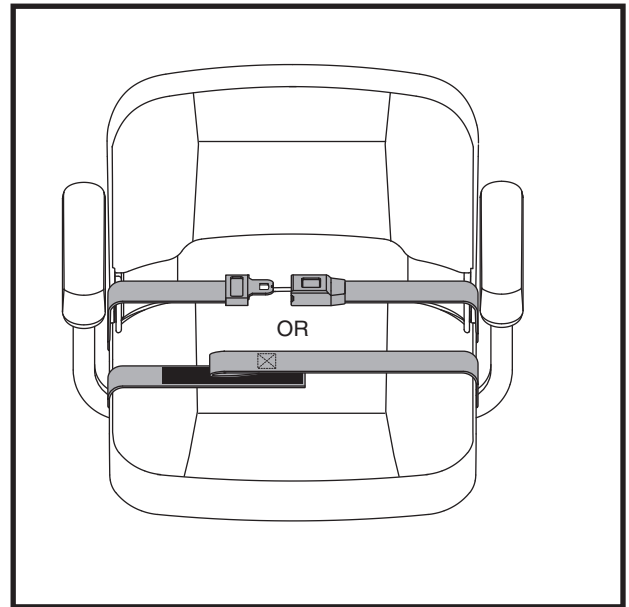

Figure 24. Positioning Belt - Metal Tab Style or Reusable Hook and Loop Fastener Style
1. Insert the metal tab on the right side of the belt into the plastic housing on the opposite strap until you hear a “click.” **See figure 24.**
1. Align the two sides of the belt placing the looped-end side directly above the coarser side (“hook”) of the opposite belt. Press firmly together to fasten. **See figure 24.**